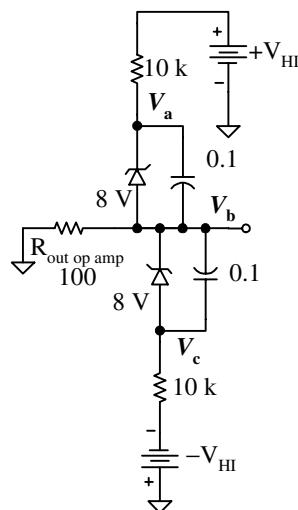

Figure 1-41 The zener part of the suspended supply
- Build the circuit in Figure 1-41. Set $\pm V_{HI} = \pm 18$ V.